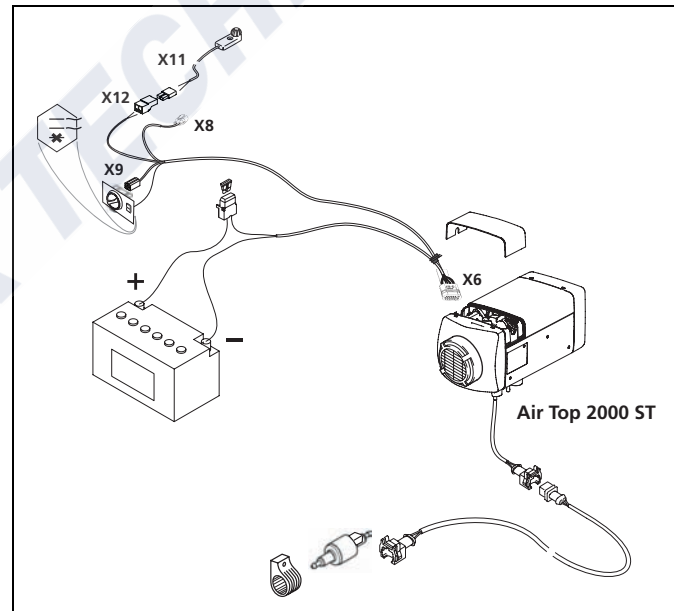
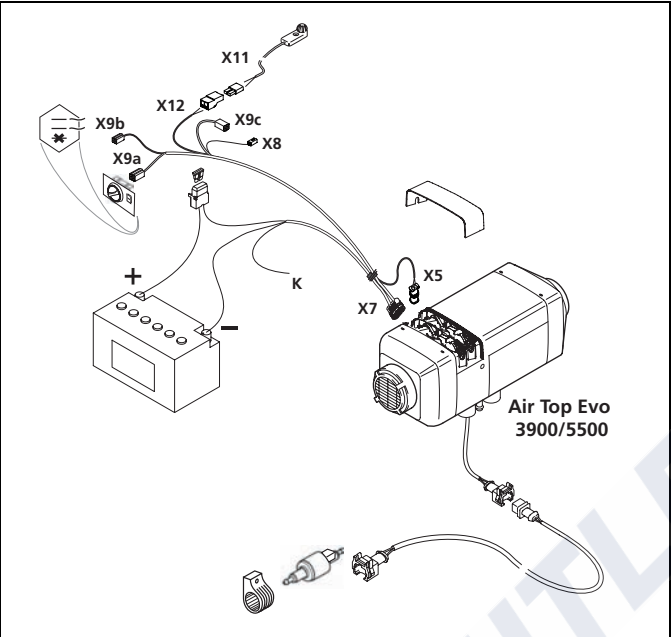

Fig. 31: Wiring harness of Air Top 2000 ST
Fig. 32: Wiring harness of Air Top Evo 3900/5500
Figure 31 and Figure 32 show the wiring harnesses for Air Top 2000 ST and Air Top Evo 3900/5500.
- The wiring harness of the Air Top Evo 3900/5500 is equipped with cable K (Figure 32, colour rd/bk) for the optional control of a battery isolation switch or an additional operation indicator. If the cable is not necessary for this purpose, insulate the end of the cable.